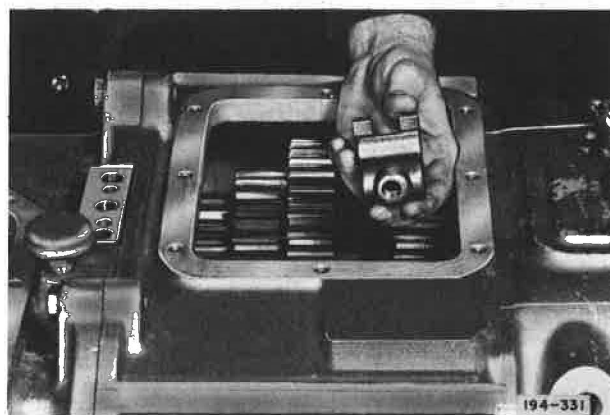

Figure 5-206. Installing First and Reverse Shifter
22. Install first and reverse speed shifter rail through front of case and first and reverse speed shifter. See Figure 5-206. Advance rail through intermediate bore of case, first speed fork, front snap ring, reverse speed fork and rear snap ring until rail reaches neutral position. Install fork and shifter set screws and tighten to recommended torque.